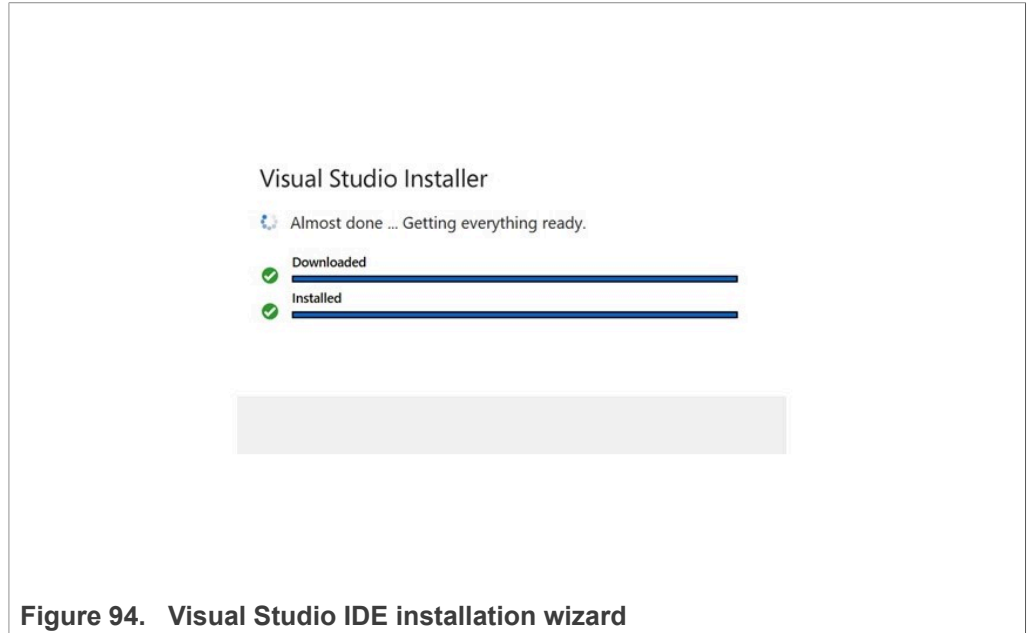

Figure 94. Visual Studio IDE installation wizard
- 3. An \*.exe installer will download to your laptop. Double click on the installer file and follow the setup wizard until the installation is completed. This process might take a few minutes. Figure 94 shows Visual Studio installation wizard as an example: